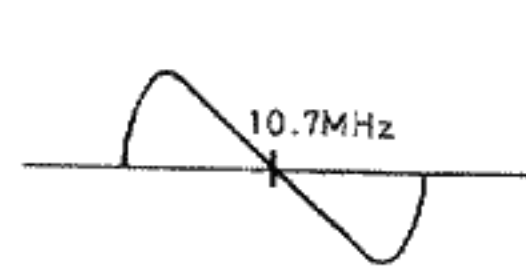

Fig. 14
- Be sure IF wave forms are normally as illustrated in Fig. 14.